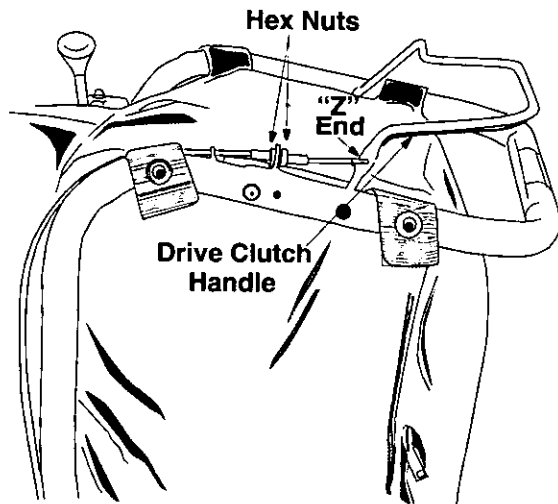

Figure 5
2. Holding the drive clutch handle up, hook the "Z" end of the cable into the drive clutch handle from the outside to the inside. See Figure 5. Pliers will aid in assembly.
Adjust the hex nuts at the cable bracket so there is no slack in the cable, but the **cable is NOT tight**. Do not overtighten the cable. See Figure 5.
2. If it does not, loosen both hex nuts at the cable bracket. See Figure 5. Turn bottom nut clockwise to loosen the cable.